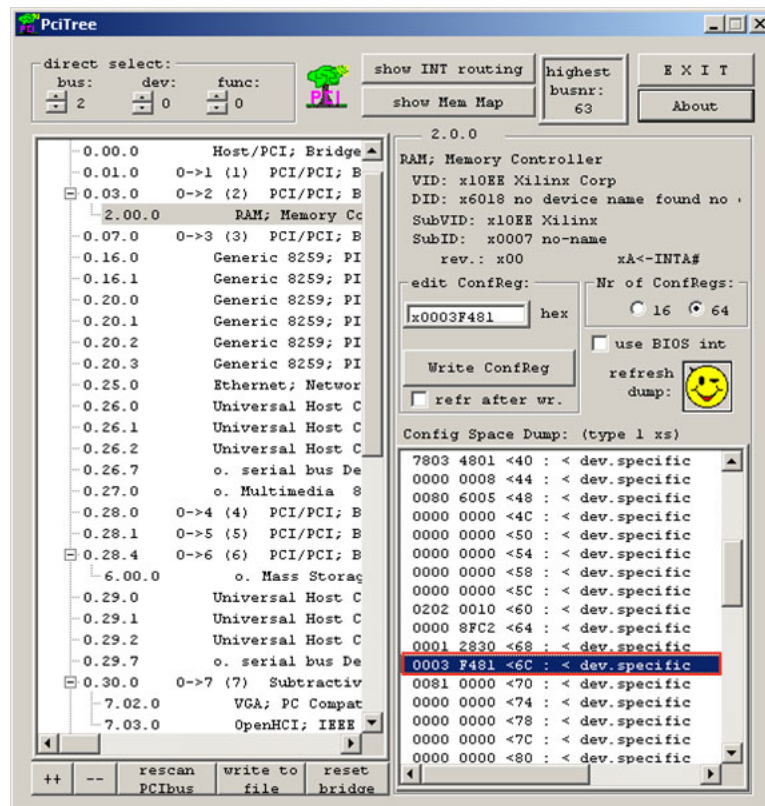

Figure 1-36: Select Register 0x6C
18. Select register 0x6C, Link Capabilities Register (Figure 1-36).